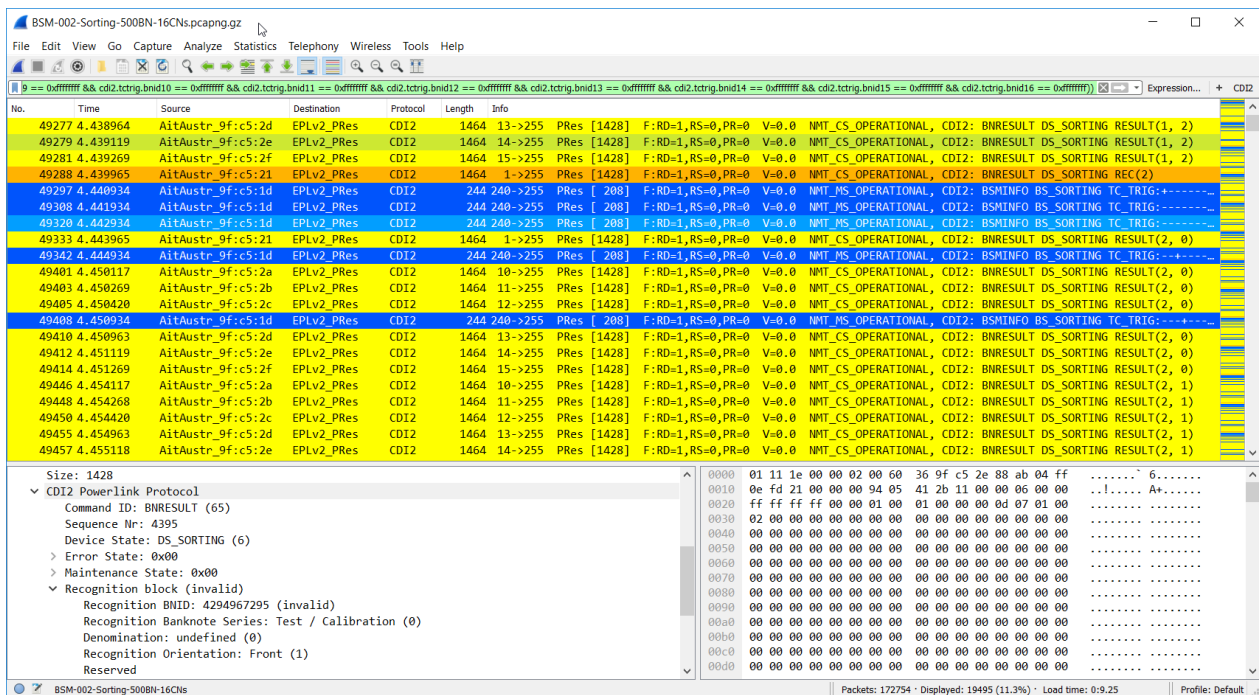

Figure 56: CDI2 filter and colouring of frames
Wireshark offers display filters to select specific packets and to exclude frames without interest. A standard filter equation for CDI2 is preinstalled and can be activated with the button "CDI2" (1). The filter selects active CDI2 packets with valid BNIDs (BNID not equal 0xFFFFFFFF). It can be used to track banknote results in sorting mode. Furthermore, the colouring of frames is used to indicate the type and content of packets. An example screen is shown in Figure 56. Due to the applied CDI2 filter equation, only frames with a valid BNID are shown. The colouring of the frames indicates the type of frame.